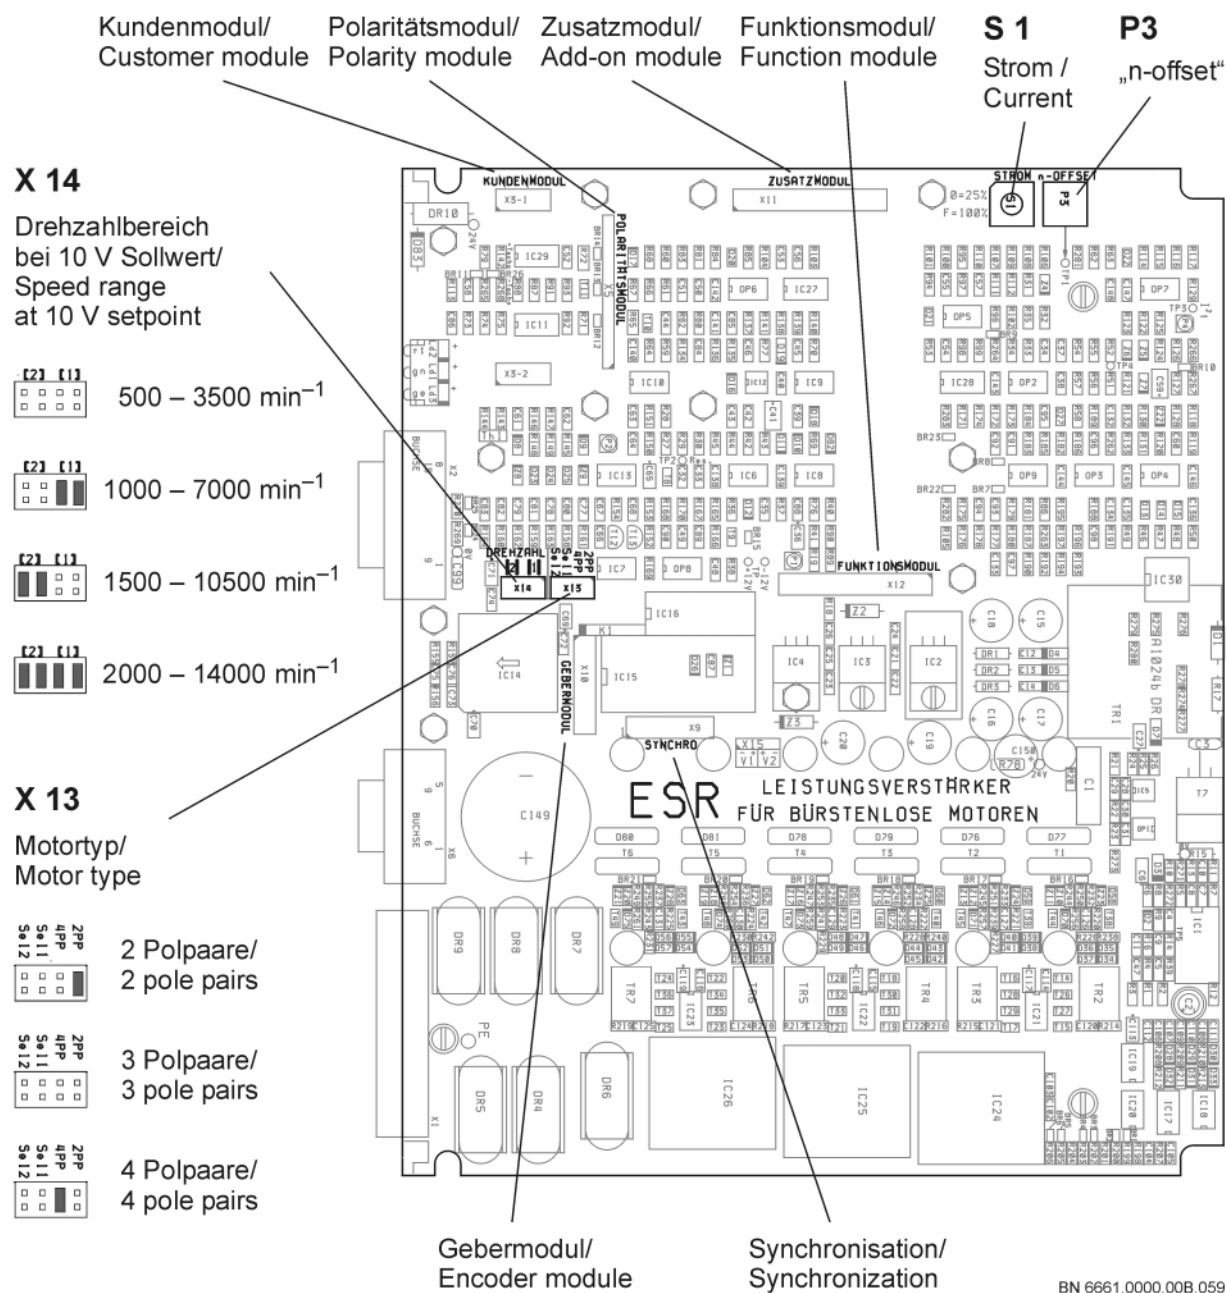

Fig. 11: Location of the jumpers on the board
The speed control range is determined using the option K (K1, K2, K4, K5, KA, and KB). However, it is not implemented on the customer module, but by means of jumpers on the board. Modify by relocating the jumpers on the X 14 field, labeled "DREHZAHL" (= speed). 2 jumpers must always be placed at the same time. The positions are marked [1] and [2]. Figure 11 shows the location of the jumpers and the locating options.
- If the amplifier is fitted with an add-on module, the offset must be readjusted in the manner described below. To do this, the offset trimmer on the front panel is required, as well as the potentiometer inside the device which is marked "n-OFFSET". It is located at the very top behind the front panel, see fig. 11.
There are 4 positions for each jumper. The positions are labeled 2PP, 4PP, Sel1 and Sel2. Figure 11 shows the location of the jumpers and the locating options.